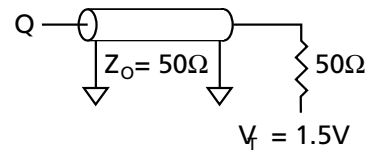

Figure 1
8. Test conditions as specified with the output loading shown in Figure 1 unless otherwise noted.
Output load	See Figures 1 and 2